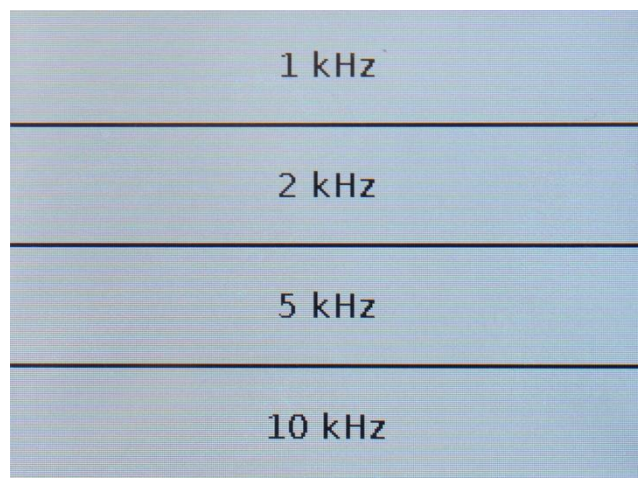

Figure 9.5 – Choosing the bandwidth in the BW menu
9.2.5. In the **BW** menu (Figure 9.5), the bandwidth of the digital filter is selected. The narrower the digital filter bandwidth, the higher the measurement precision and the signal-to-noise ratio. This increases the scan time.